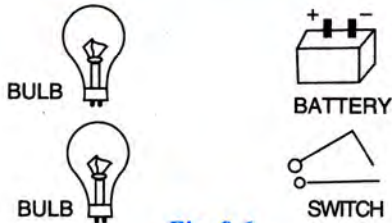

Fig. 9.6
2. The diagram in Fig. 9.6 shows a battery, a switch and two bulbs. (a) Complete the diagram to show the electric connections of the bulbs to the battery. (b) How have you joined the bulbs in part (a) ? Give reason.